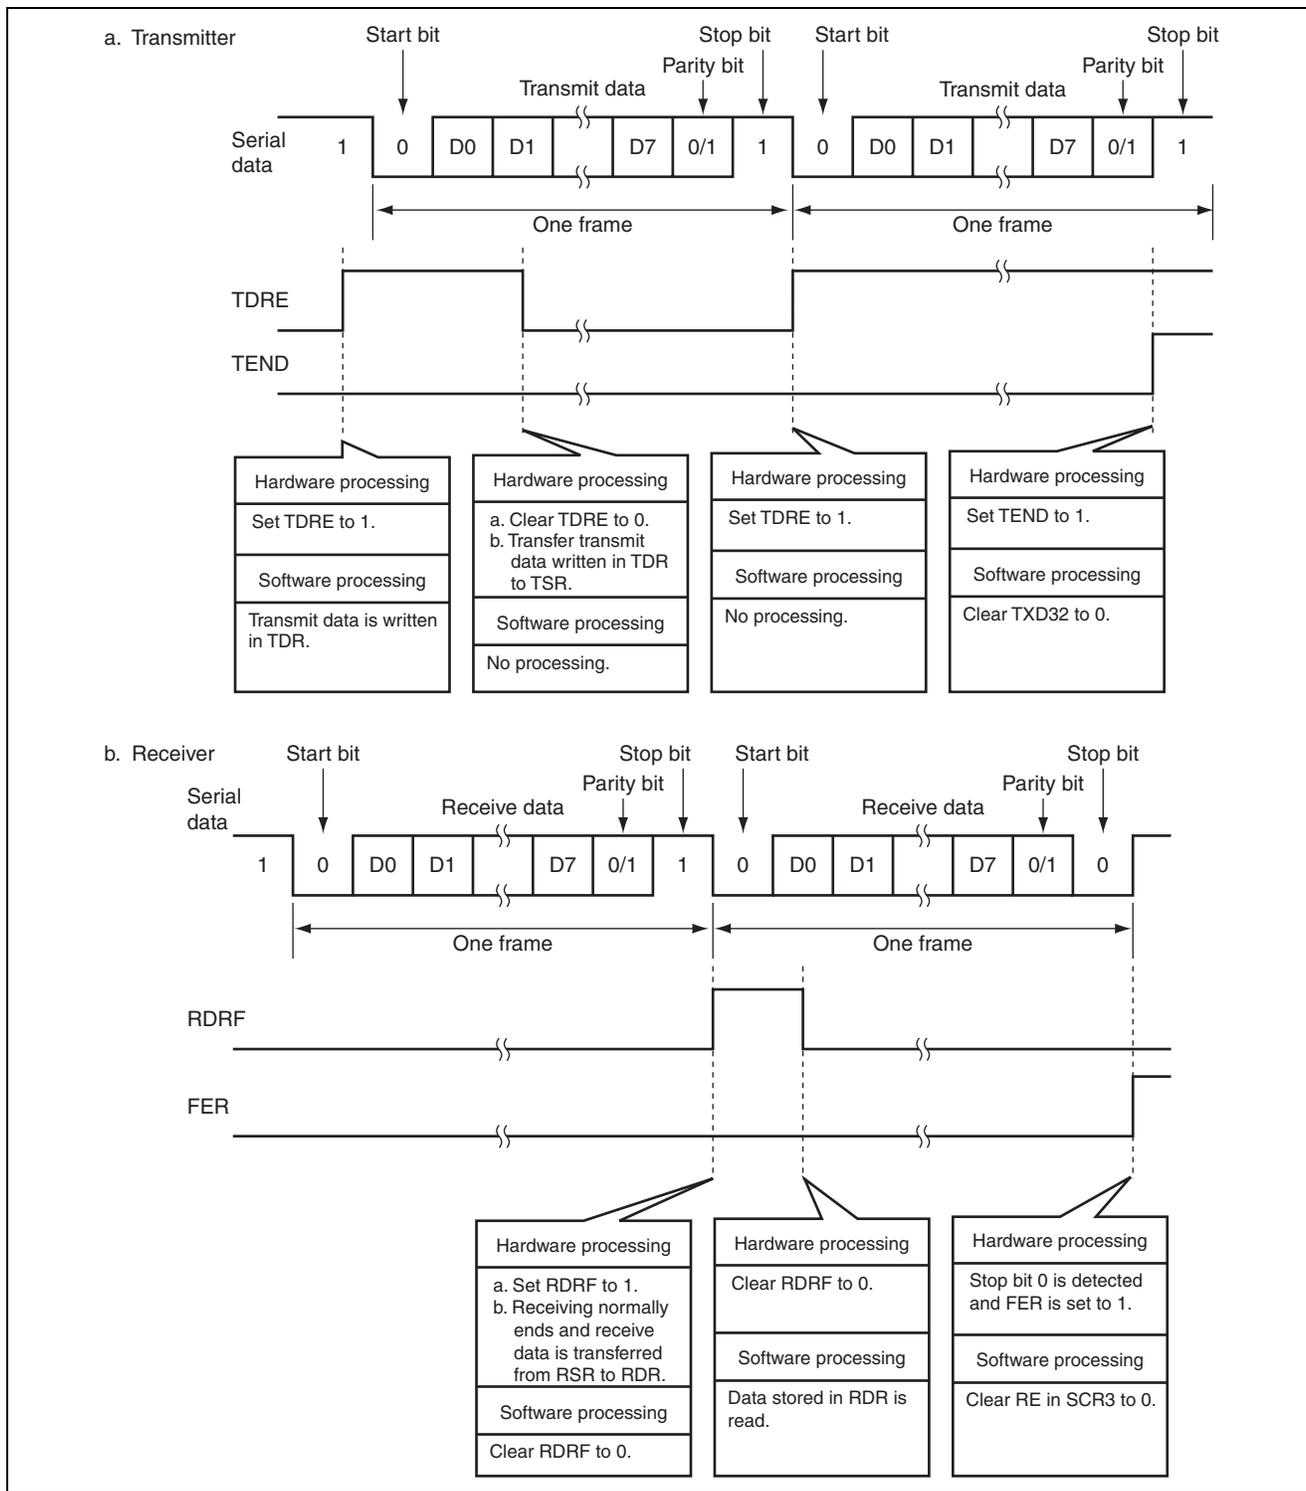

Figure 3.1 Operation Principle of Simultaneous Serial Data Transmission and Reception in Asynchronous Mode
1. Figure 3.1 illustrates the principle of operation of this sample task. Serial data is simultaneously transmitted and received in asynchronous mode by hardware and software processing as shown in figure 3.1.